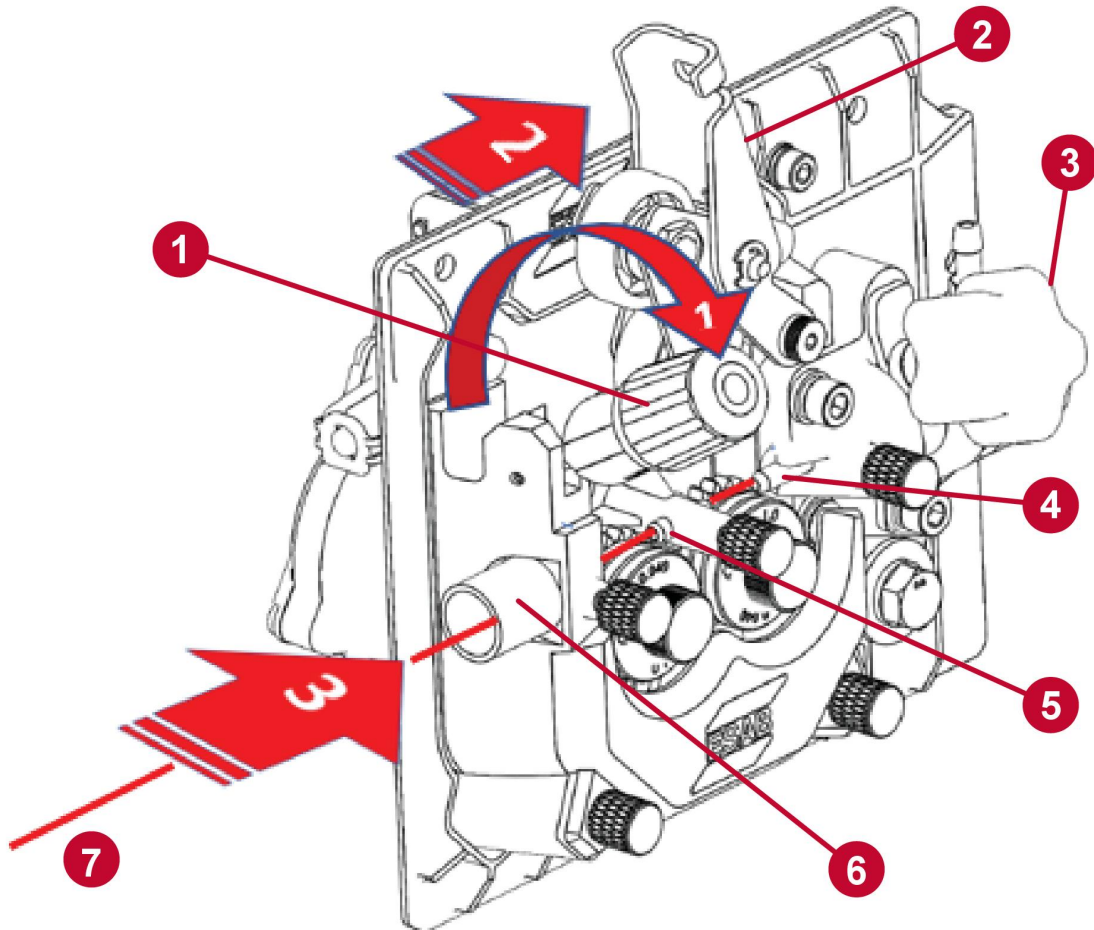

Figure 9. Wire-feed mechanism
3. On the wire-feed assembly release the tensioning arm by pulling it up out of its detent and rotating it toward you (see (1) in Figure 9).
Near the input end of the wire-feed guide on the wire-feed assembly (see Figure 9) cut the wire while holding the bobbin-end (so the wire does not unravel from the bobbin after cutting it loose). Secure the cut end of the wire to the bobbin (if any wire is left on the bobbin) to prevent the wire from unraveling from the bobbin.